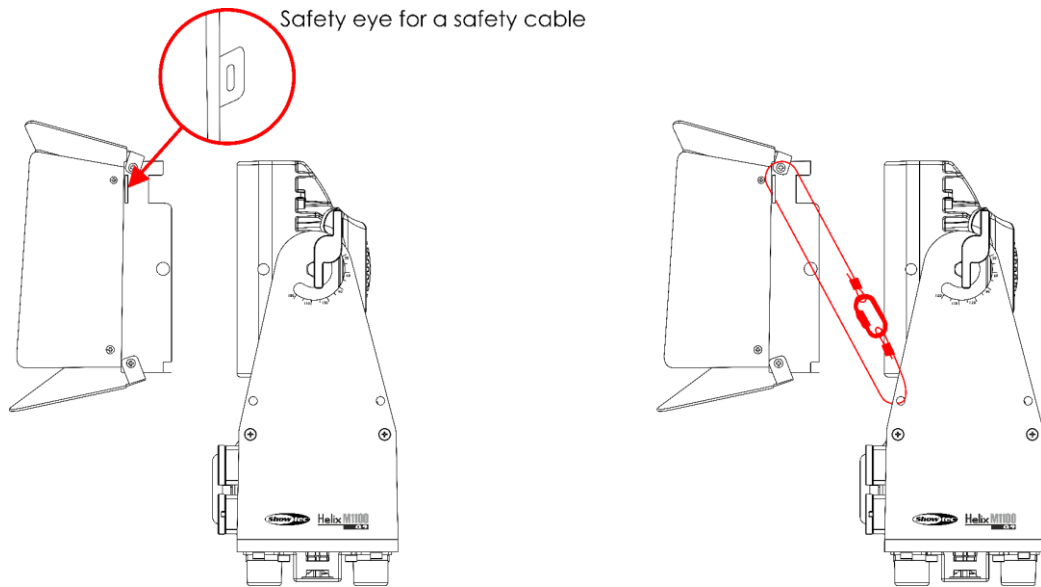

Fig. 10
- 02) Put the tophat on the device, as shown in Fig. 10.